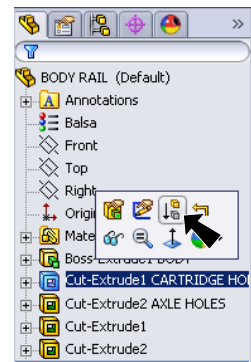

Fig. 23
Step 2. Click **Cut-Extrude CAR-TRIDGE HOLE** in the Feature Manager and click **Suppress**  in the menu, Fig. 23.